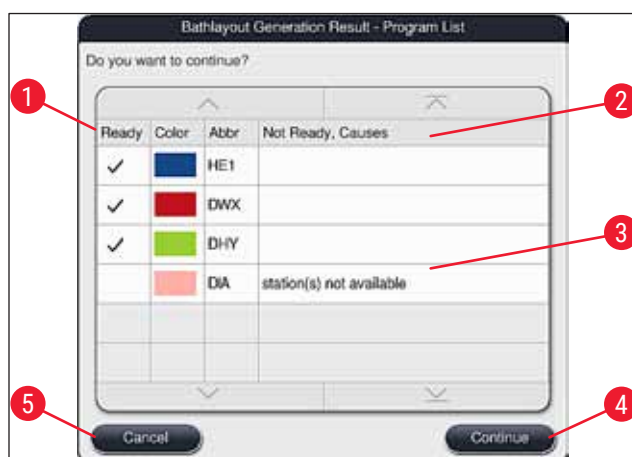

Fig. 52
- If more programs have been selected than could be integrated into the bathlayout, the user is informed by the **Bathlayout Generation Result** (→ "Fig. 52") display. Successfully integrated programs are marked with a check mark in the **Ready** (→ "Fig. 52-1") column.